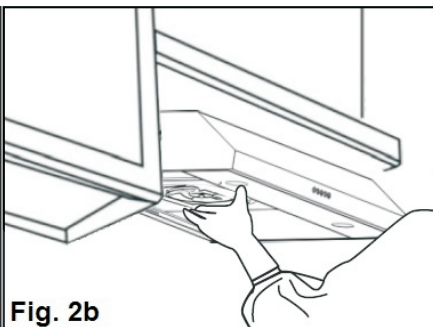

Fig. 2b
- f. Lift the unit up flush against the wall and the cabinet. (Fig. 2b)